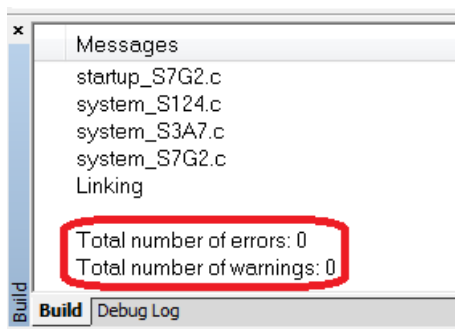

Figure 1.13 Error Free build
2. A successful build produces an output similar to Figure 1.13.